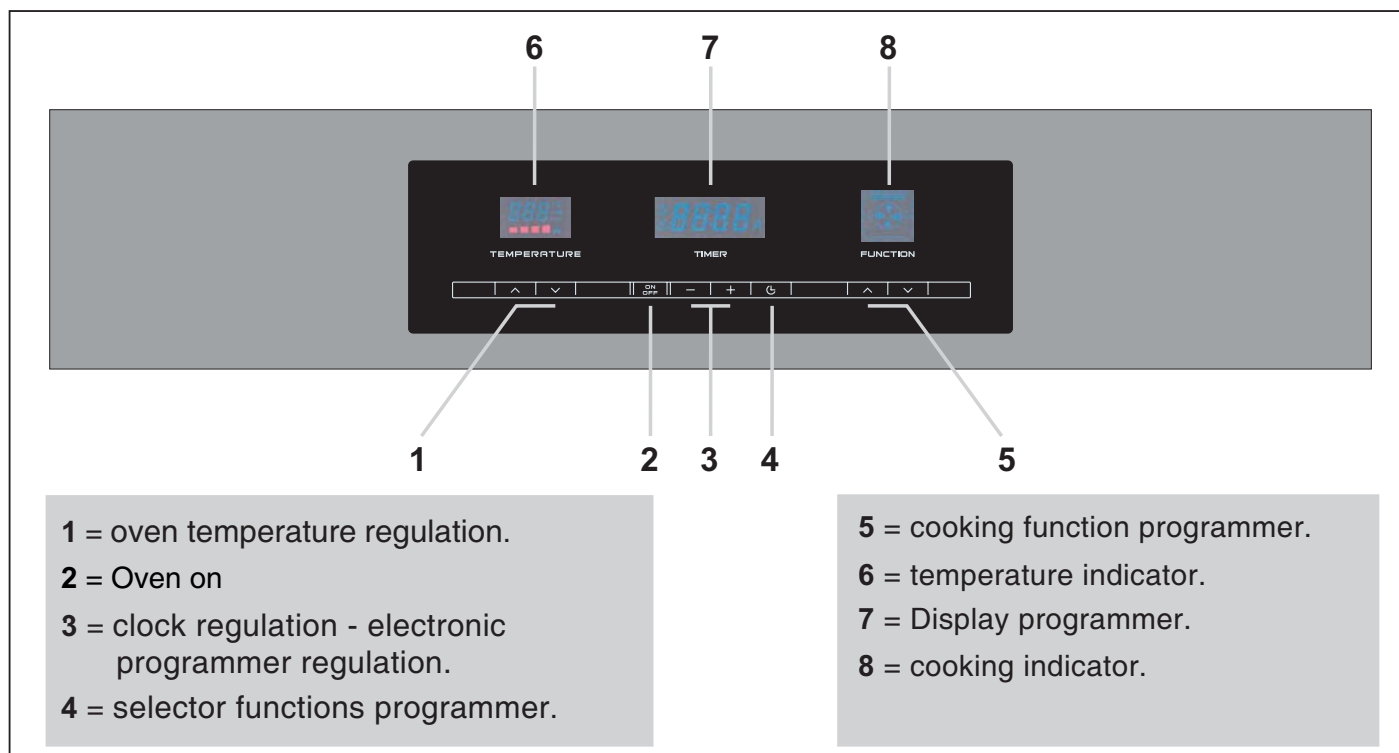

Fig. 5
The following cooking functions can be set by using the programmer (Fig. 5):
Note: the functions selected and the oven temperature will appear on the display (see fig. 5).
The raised portion of the shelf is to be facing the rear wall of the oven (fig. 5).
- Thread the chicken or the cubes of meat for roasting on below spit **L**, ensuring that it is gripped safely between the two forks **F** (fig. 5).